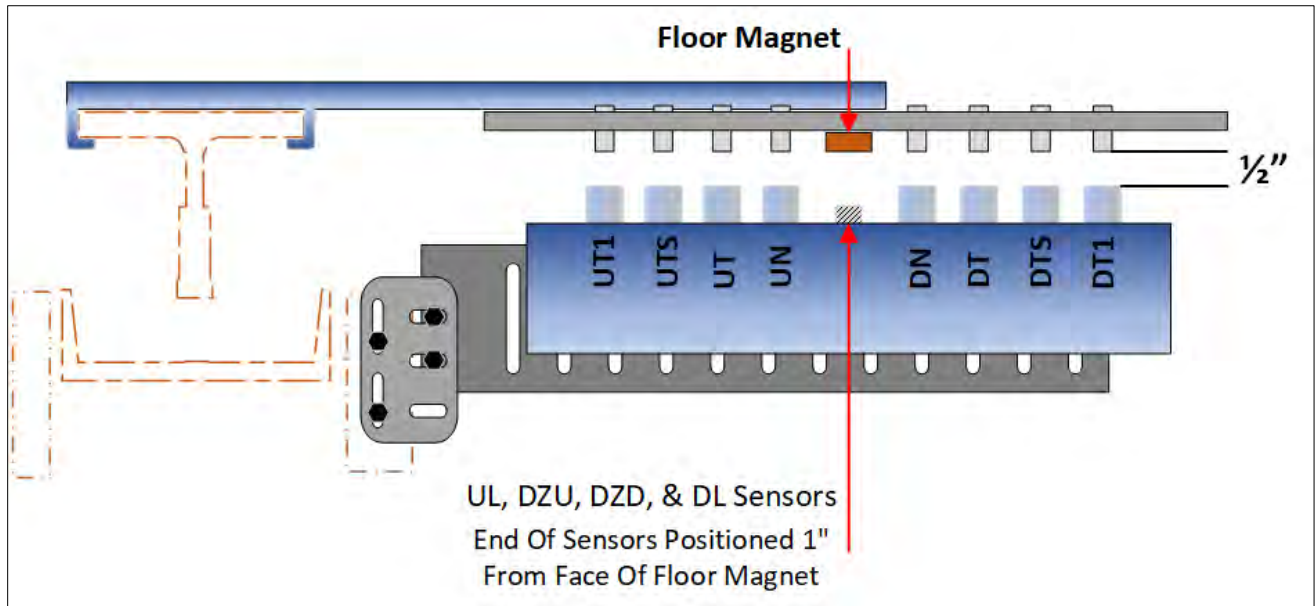

Figure 2-28: Tapeless Selector 5 Top View.
The “Tapeless Selector 5” is similar to the “Tapeless Selector 7”. However, the “Tapeless Selector 5” includes the leveling sensors within the limit switch box and requires a J-hook bracket at each floor for mounting the floor magnet. See Figures 2-28, 2-29, and 2-30.
- Mount the limit switch box mounting bracket to the cross head ensuring that the mounting is plumb and level. See Figures 2-28 and 2-30.
- Mount the limit switch box to the mounting brackets. The selector box should be positioned to allow for a distance of 1/2 inch from the face of the magnetic switch to the end of the actuating magnets that will be installed in step 3. See Figures 2-28 and 2-30.
See Figures 2-28, 2-29, and 2-30.
- Mount a J-hook bracket at each floor for the floor level magnet. See Figures 2-28 and 2-30.
- Adjust the leveling sensors so that the end of the sensors are 1 inch from the face of the floor magnet. See Figure 2-28. This distance may be adjusted in section 3.3.8.3 to provide the correct “floor level zone”.
- Mount a J-hook bracket with a **GREEN** actuating magnet for each magnetic limit switch at the proper distance from the top terminal landing. See Table 2-1 for the proper distance. See Figures 2-28 and 2-30. for the proper position of the actuating magnet on the J-hook bracket.
- Mount a J-hook bracket with a **RED** actuating magnet for each magnetic limit switch at the proper distance from the bottom terminal landing. See Table 2-1 for the proper distance. See Figures 2-28 and 2-30 for the proper position of the actuating magnet on the J-hook bracket.
- The actuating magnets should be adjusted so that the end of the magnet is 1/2 inch from the face of the magnetic switch as the magnetic switch passes the actuating magnet. See Figure 2-28.